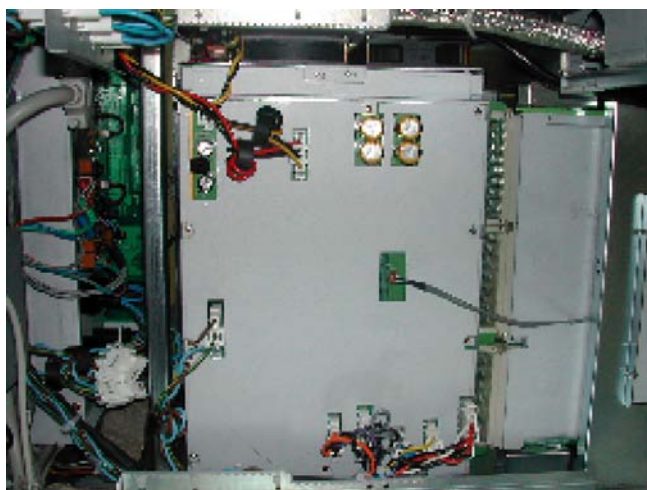

Figure 8-84 Disconnect 8 connectors from the left
- 2.) Unscrew the nine (9) screws from the Nest EMI Cover.
- 4.) From the left view, disconnect eight connectors from the Backplane Assy. Refer to Figure 8-84.